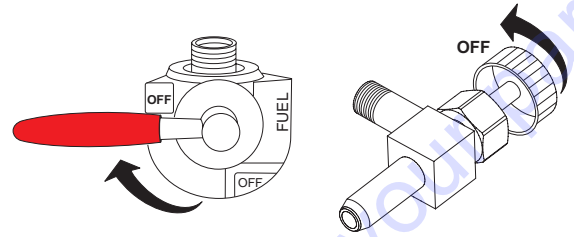

**Figure 31. Draining Engine Oil**
- Drain the engine oil when the oil is warm as shown in (Figure 31).